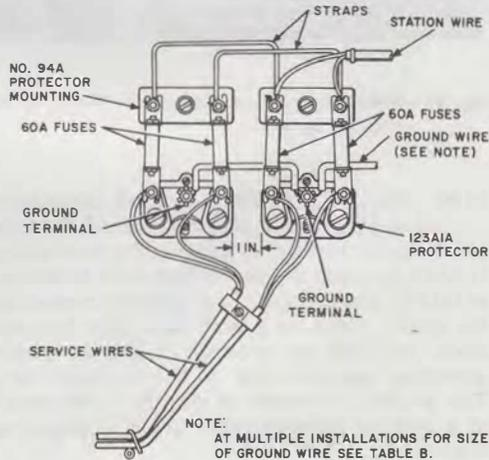

Fig. 85—Fuseless Protectors Used for Bridging Service Wires on Battery Feed Circuits
11.11 Fig. 85 shows two battery feeder pairs terminated on fuseless station protectors equipped with 60A fuses and bridged to one station wire.